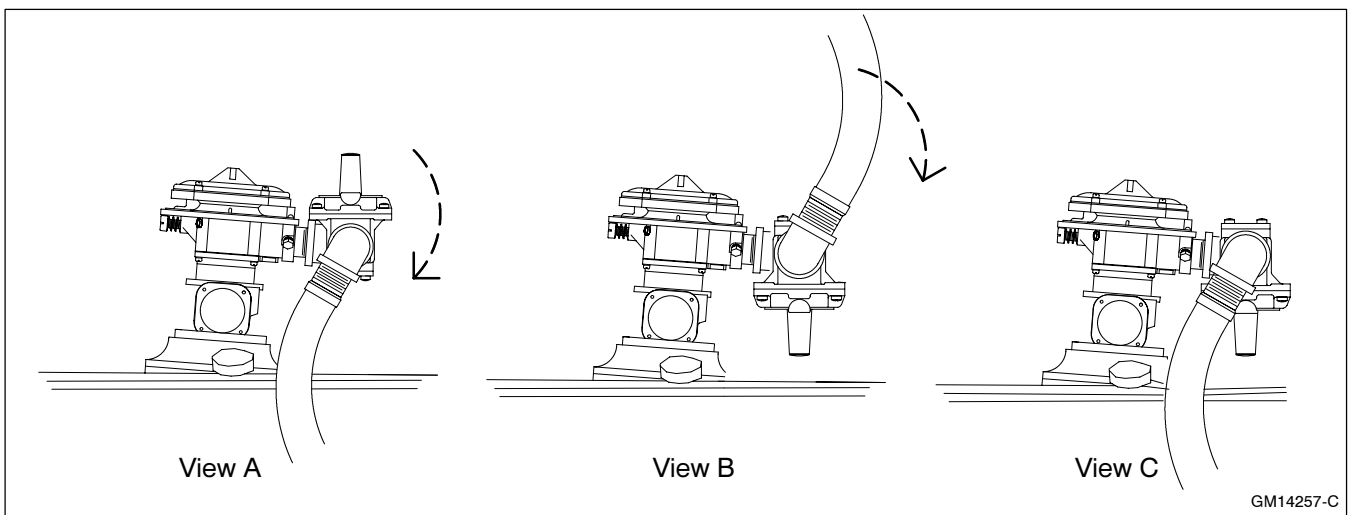

Figure 6 Fuel Regulator and Fuel Line Rotation Views for Natural Gas to LP Gas Conversion
- 3.5.1 See Figure 6, View A for natural gas configuration.
- 3.5.2 Rotate the *fuel regulator and fuel line* 180 degrees clockwise. See Figure 6, View B.
- 3.5.3 Rotate the *fuel line elbow* an additional 180 degrees clockwise. See Figure 6, View C.